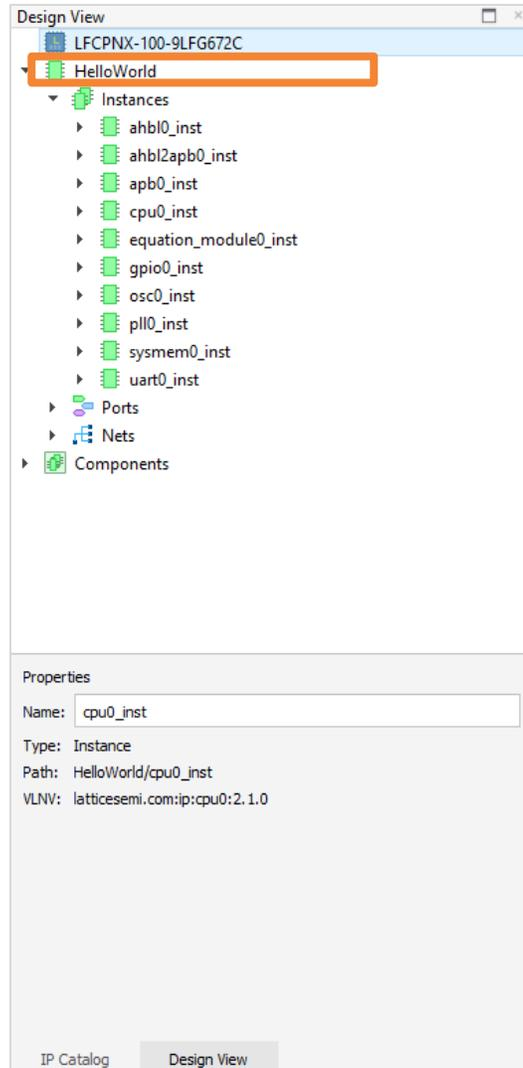
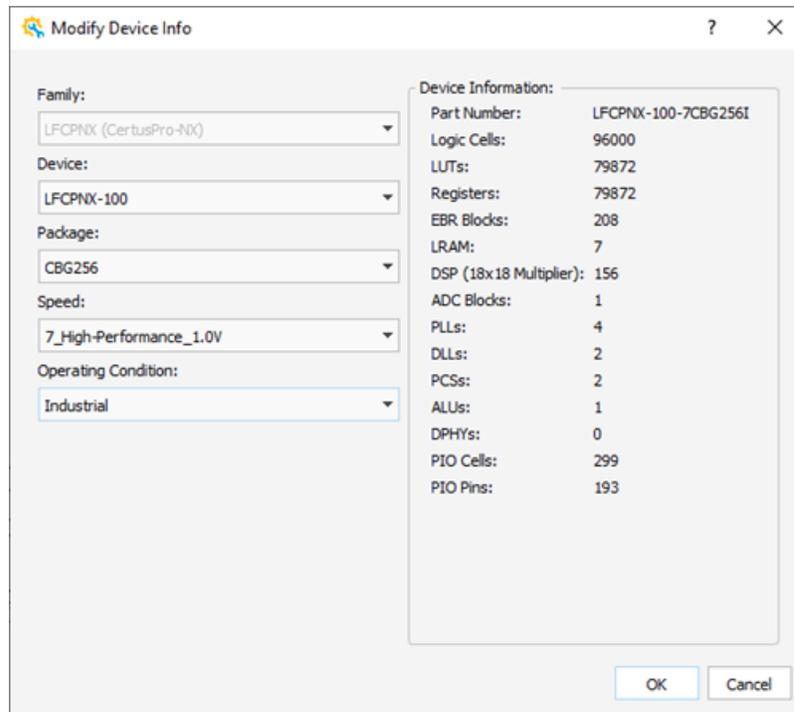

Figure 2.138. Design View of Device Part Number
Figure 2.139. Modify Device Info
1. Double click the device part number from the Design View (Figure 2.138), the Modify Device Info wizard pops up (Figure 2.139).
2. Use the drop-down menu to choose the desired device in **Device** filed in the Modify Device Info wizard (Figure 2.139). Use the drop-down menu to change the package, speed and operating condition in **Package, Speed, Operating Condition** filed.